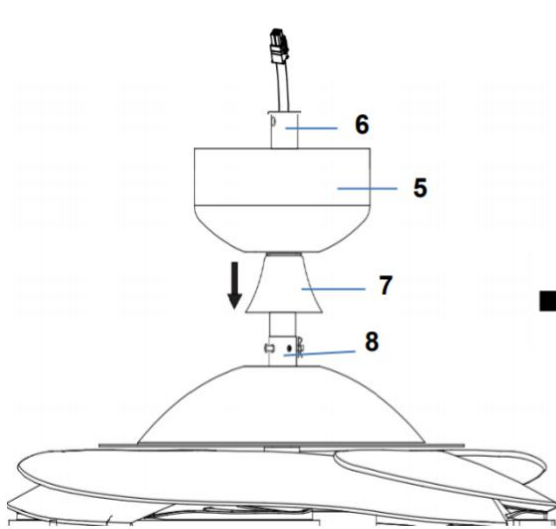
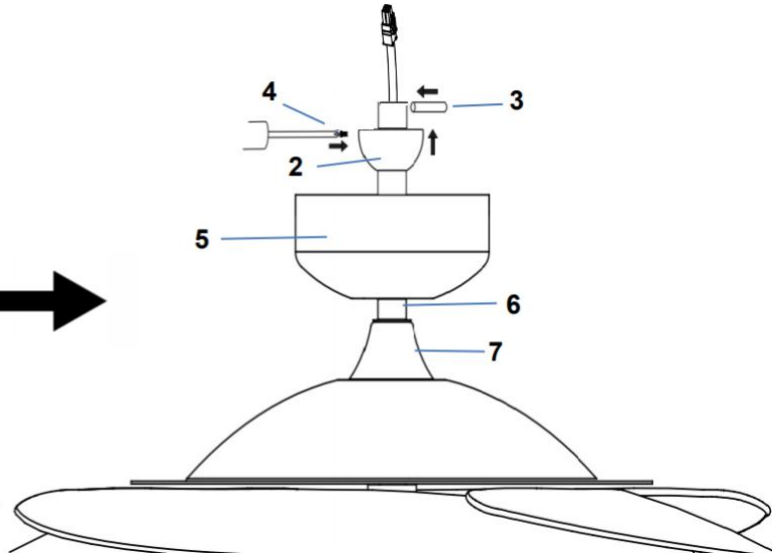

Fig. 4.5
Fig. 4.6
6. Insert the decorative cover (7) onto the down rod (6) to cover the down rod coupling housing (8). (Fig. 4.5)
7. Insert the canopy (5) over the down rod (6) and install the ball joint (2) and dowel pin (3) back onto the down rod (6) and secure by tightening the set screws (4). (Fig. 4.5 and Fig. 4.6)